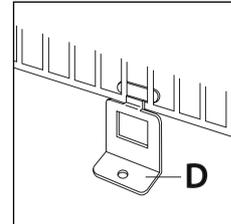

Fig. 4
2. Hang the convector on the two brackets fixed to the wall and insert metal bracket "D" into the bottom rear section of the base of the convector as indicated in figure 4.